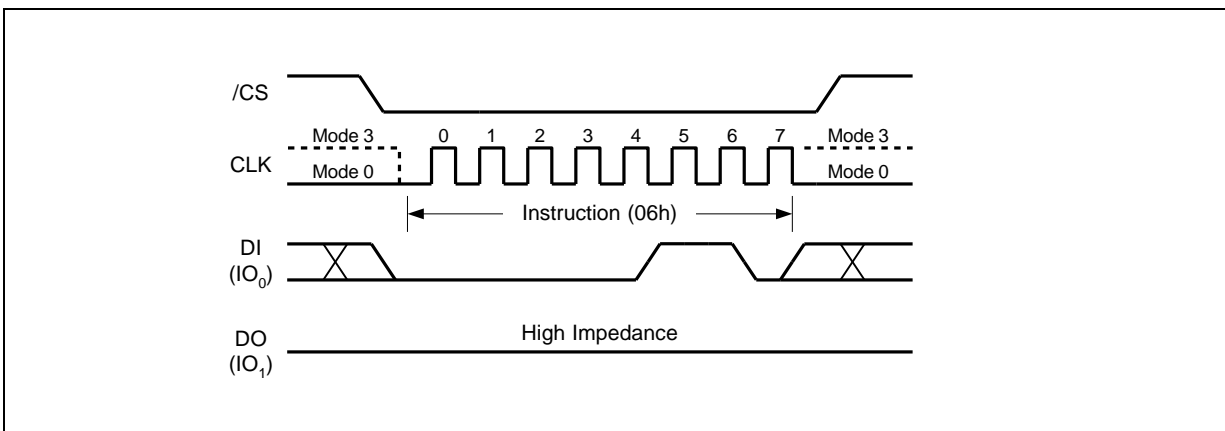

Figure 5. Write Enable Instruction
The Write Enable instruction (Figure 5) sets the Write Enable Latch (WEL) bit in the Status Register to a 1. The WEL bit must be set prior to every Page Program, Quad Page Program, Sector Erase, Block Erase, Chip Erase, Write Status Register and Erase/Program Security Registers instruction. The Write Enable instruction is entered by driving /CS low, shifting the instruction code “06h” into the Data Input (DI) pin on the rising edge of CLK, and then driving /CS high.